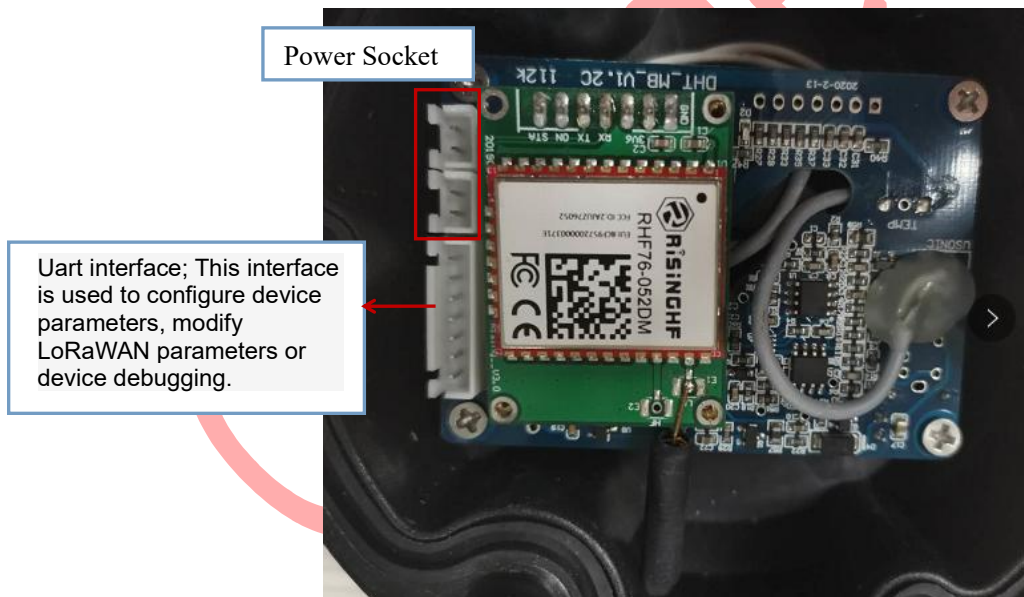

Figure2.1
The detailed of power interface , uart interface, as shown in figure2.1.
- TTL tool and its cables, as shown in Figure2.1 and Figure2.2.